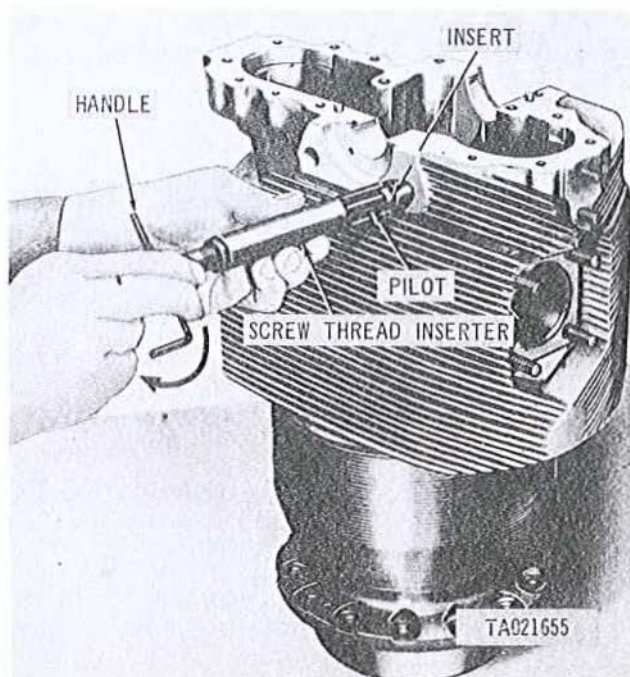

Figure 3-143. Installing helical-coil threaded insert in cylinder assembly using screw thread inserter.
(3) Thread new insert (fig. 3-143) into the threaded guide of inserter Part No. MIL-T-21309 by slowly turning the pilot until insert is flush with the end of the tool. Insert the pilot of the screw thread inserter Part No. MIL-T-21309 into the threaded hole in cylinder, with face of the inserter resting solidly against the casting as shown.
(4) Slowly turn handle of pilot clockwise until no further resistance is felt. The insert will then be flush with cylinder casting. Remove inserter and break off helical-coil tang.